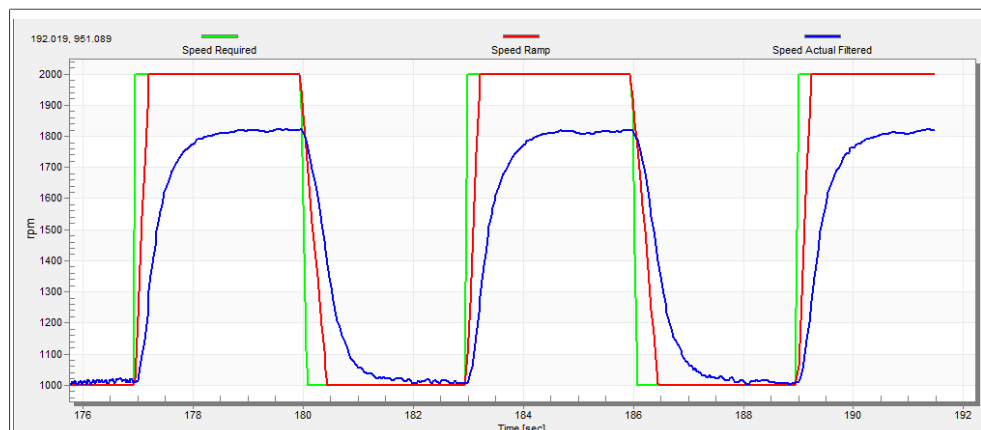

Figure 27. Speed controller response—SL\_Ki value is low, Speed Ramp is not achieved
The motor speed control loop is a first-order function with a mechanical time constant that depends on the motor inertia and friction. If the mechanical constant is available, the PI controller constants can be tuned using the loop bandwidth and attenuation. Otherwise, the manual tuning of the P and I portions of the speed controllers is available to obtain the required speed response (see the example response in Figure 27). There are dozens of approaches to tune the PI controller constants. The following steps provide an approach to set and tune the speed PI controller for a PM synchronous motor:
- The “SL\_Ki” value is low and the “Speed Actual Filtered” does not achieve the “Speed Ramp” (see Figure 27).